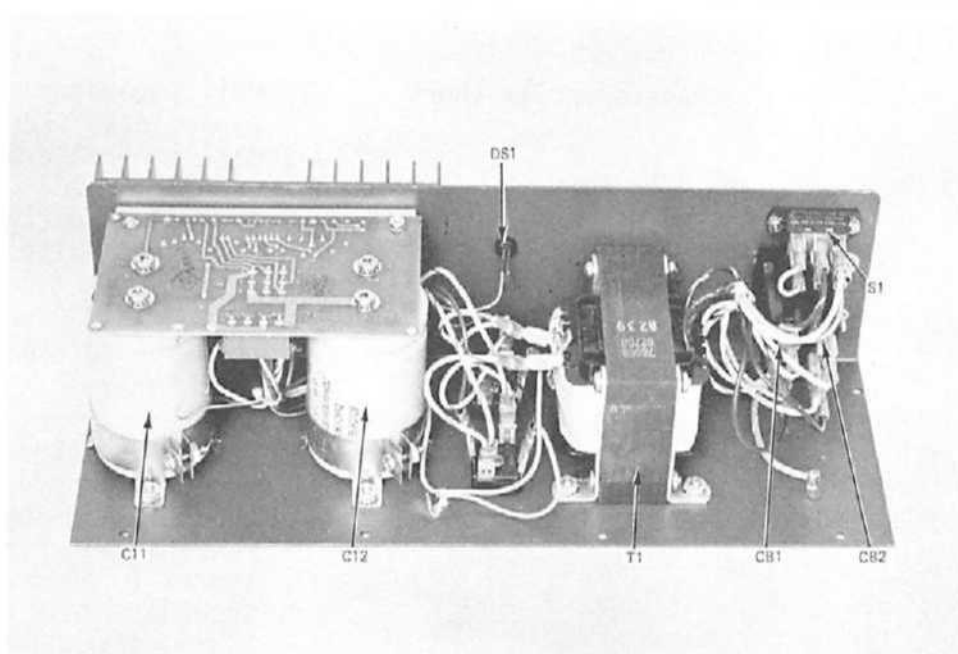

Figure 7-2. Quick-Mount Power Base, (Bottom View).
2. Place the power base upside down. Remove the 6 screws indicated in Figure 7-2.